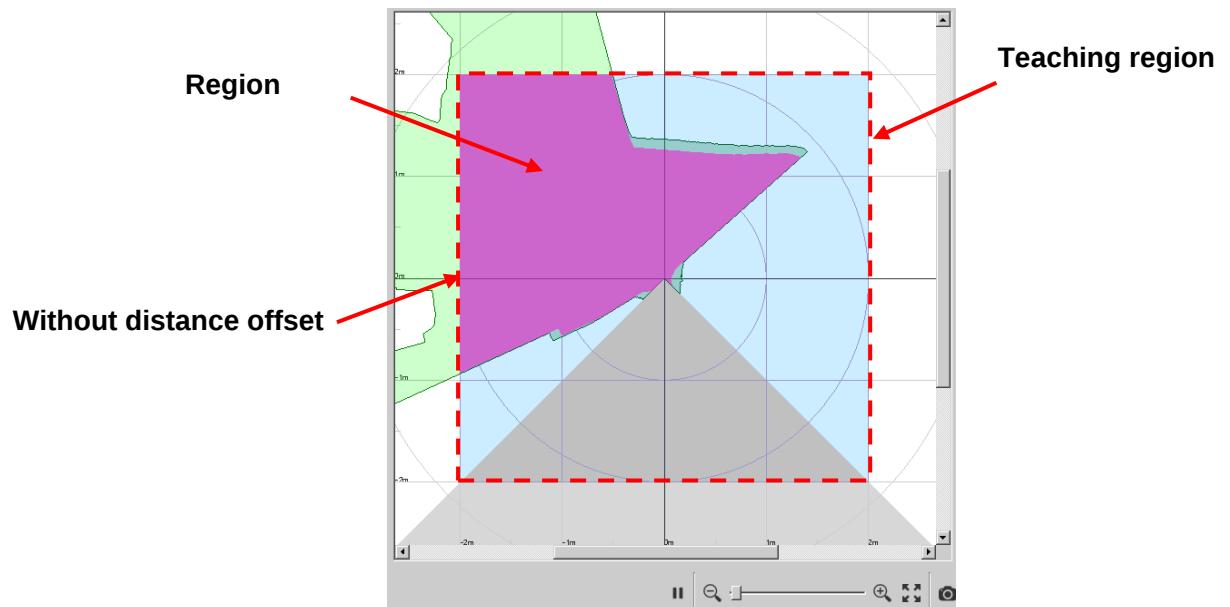

Figure 4.2.1.2.4-13 Display when no background in the configured teaching region
- While performing teaching within the specified region, if background does not exist, the boundary of teaching performing region will be set as the region. In this case, difference of offset value will not be applied. (Refer to figure 4.2.1.2.4-13)